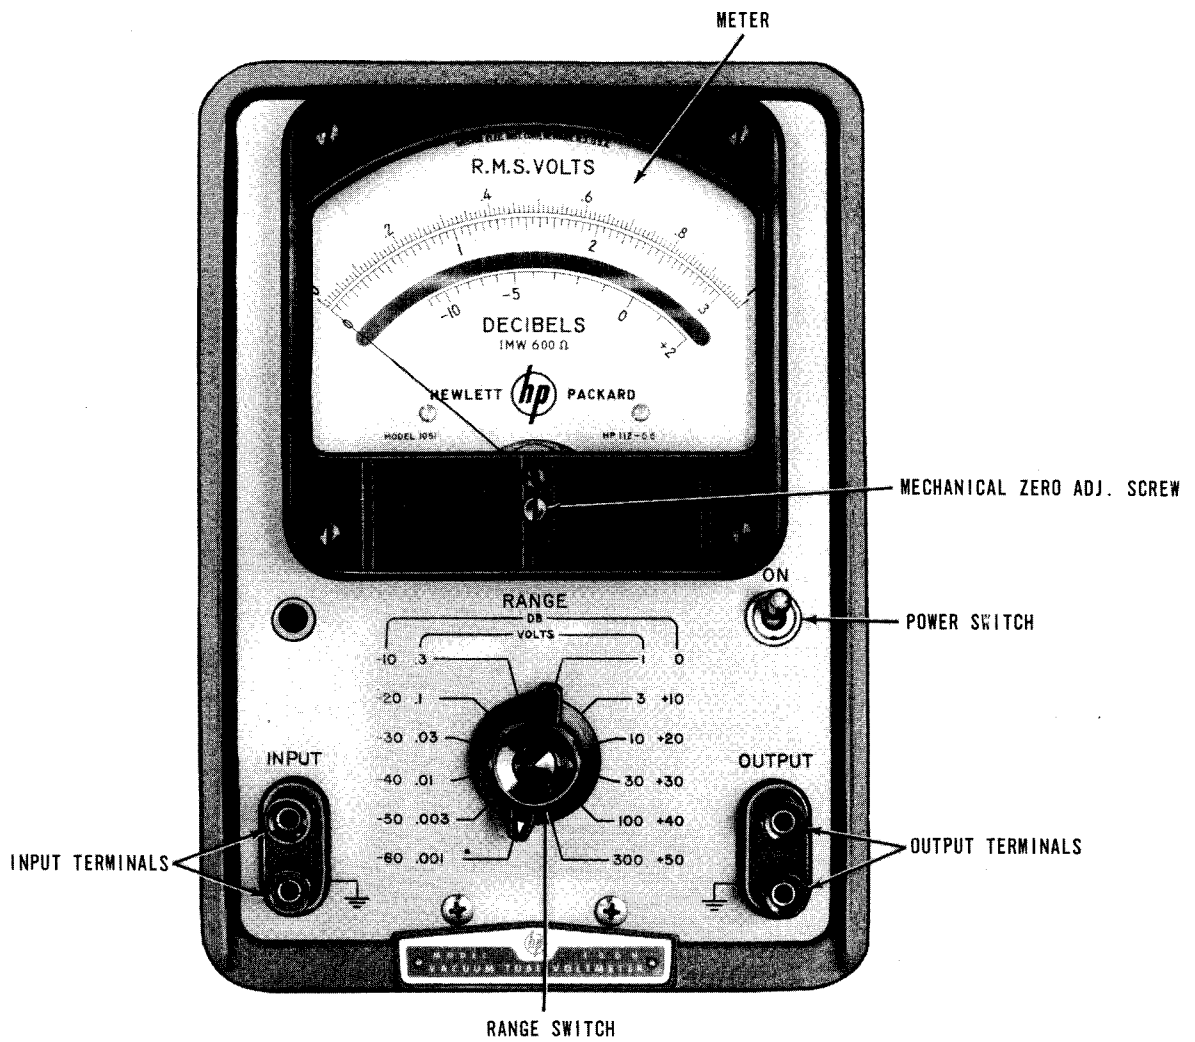

FIGURE 1. VACUUM TUBE VOLTMETER - FRONT PANEL VIEW.
- 6.3 Connect equipment to a 115-volt, 60-cps power source and energize. Refer to figure 1 for the location of all switches and controls on the 400H.